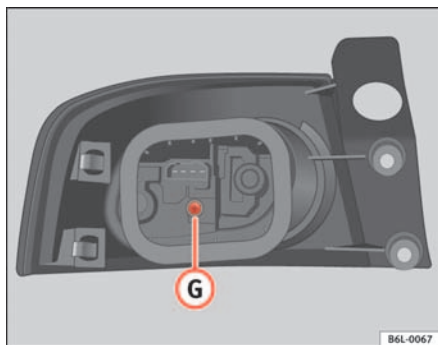

Fig. 166 Rear lights on bodywork
- Unscrew the bolt **G** ⇒ fig. 166.